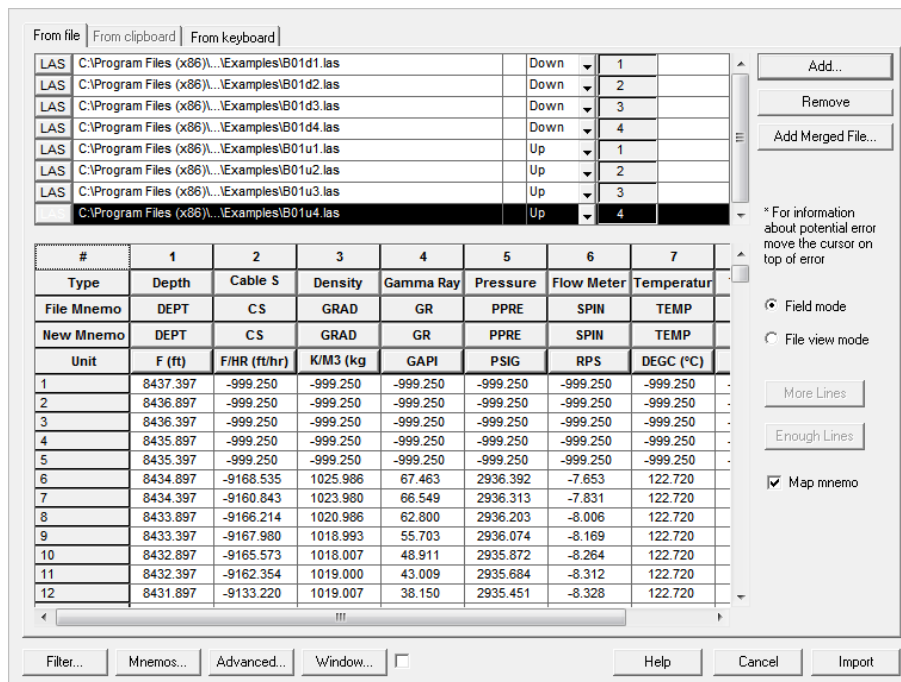

Fig. B01.9 • Load dialog after file selection
- Note: you can select all files at once with the 'Ctrl' key pressed or one after the other with the 'Shift' key pressed. You can also click on 'Add...' every time a new file is selected. When all files are selected the Load dialog looks as shown on Fig. B01.9.